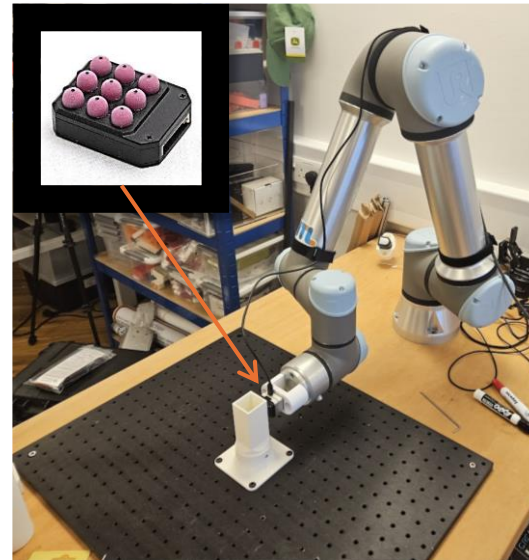
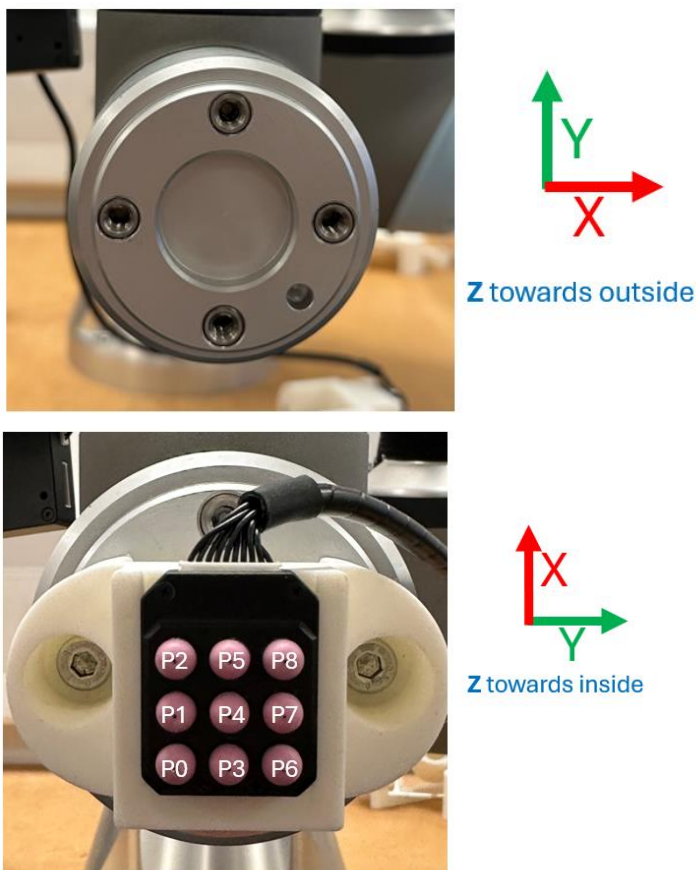

Figure 1: The experiment setup consists of a UR5e robot arm equipped with a Contactile sensor (inset). The test object is fixed in the workspace.
Figure 3: Force axis conventions
For the experiments, a UR5e robot was equipped with a 'Contactile' tactile sensor (Figure 1). The robot also includes a 6D force/torque sensor in the wrist. The Contactile sensor consists of 9 rubber papillae, each of which uses internal optical techniques to measure 3D vectors of force and displacement
3. The Contactile tactile sensor is composed of 9 individual domed sensing elements called papillae (shown in Figure 1 and Figure 3). Right now, we're just going to look at the data from the middle papillae (P4).
sensor_matrices_force – there are 9 papillae, each with an [1x3] force vector. These are arranged in the sequence given in Fig 3 to give 27 (9x3) variables per row.